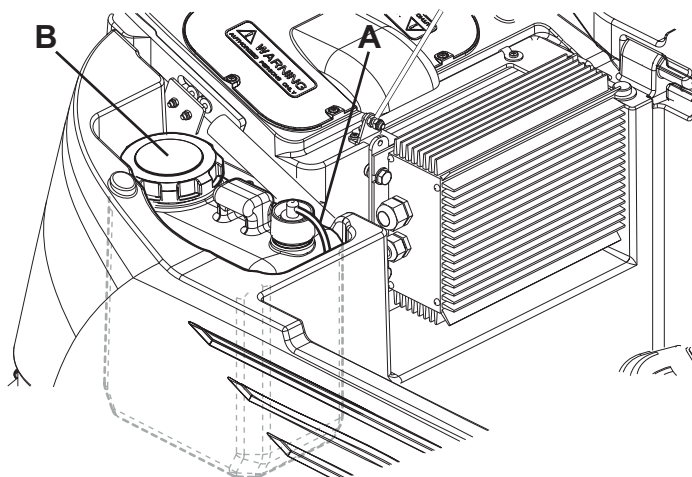

Figure 10
2. Open the cover (20) and check that the recovery tank (19) is empty, otherwise empty it with the drain hose (24). Close the cover (20).
3. Carefully lift the recovery tank (44).
4. Unscrew the plug and disconnect the hose (A, Fig. 10) from the tank (B).
7. Install the tank (42) in the position shown in the figure and connect it to the hose (A).